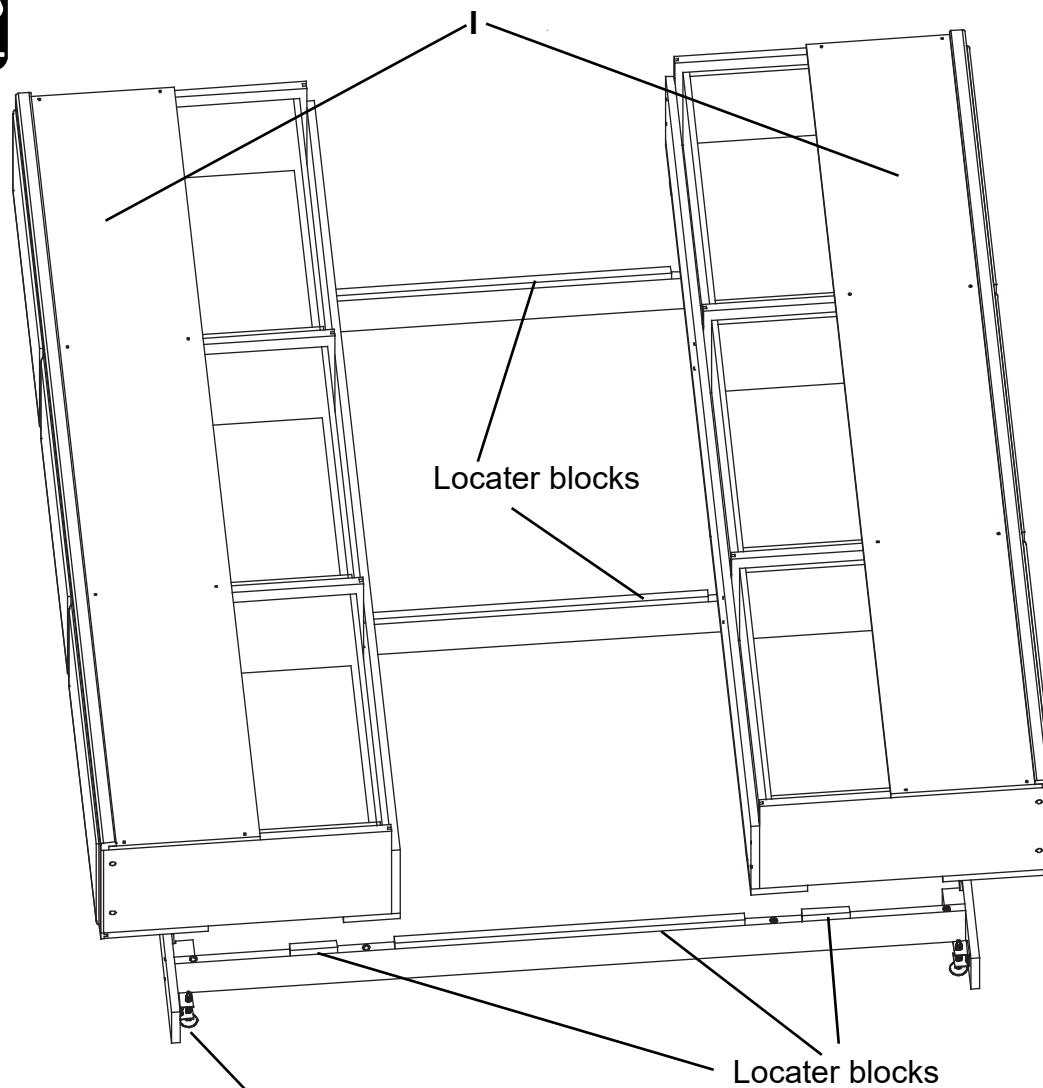

Fig. 3
3. Place each pedestal (I) on top of the base kit against the side of and between the locator blocks of the Base Kit. See Figure 3.